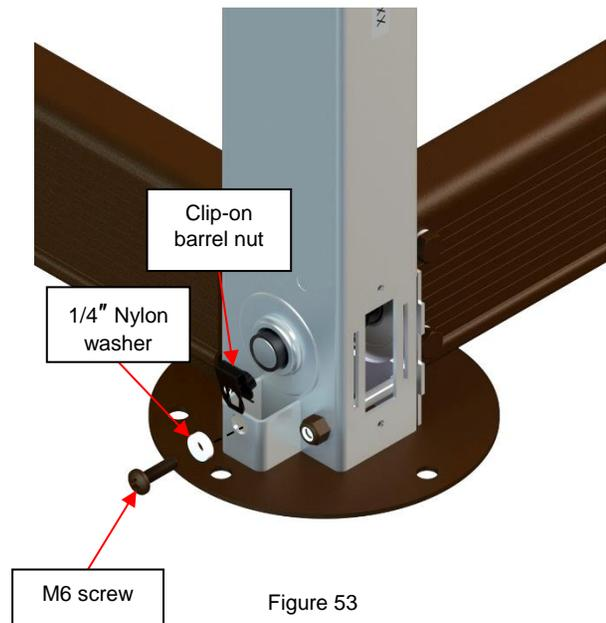

Figure 53
18) Install the clip-on barrel nuts at the bottom of the non-motor-side jack assemblies for the sleeves, using Phillips M6 x 20 mm screws and 1/4" nylon washers. Only the non-motor-side jack assemblies need clip-on barrel nuts installed. (Figure 53)